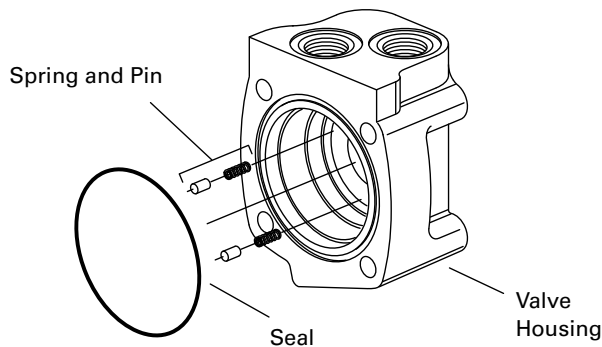

Figure 14.
35. Install 2 springs and 2 pins in the holes located in the bore of the valve housing, as shown in Figure 14.